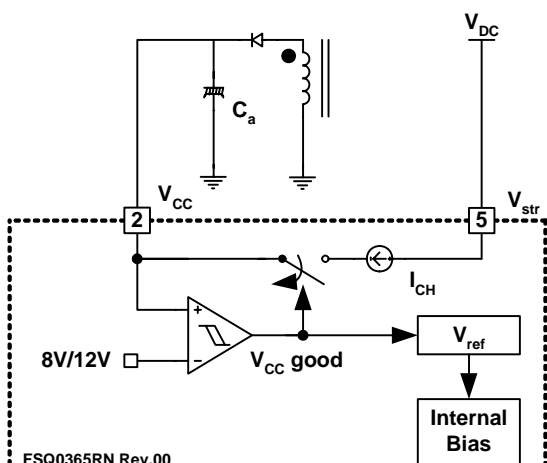

Figure 20. Start-up Circuit
**1. Startup:** At startup, an internal high-voltage current source supplies the internal bias and charges the external capacitor ( $C_a$ ) connected to the  $V_{CC}$  pin, as illustrated in Figure 20. When  $V_{CC}$  reaches 12V, the FPS begins switching and the internal high-voltage current source is disabled. The FPS continues its normal switching operation and the power is supplied from the auxiliary transformer winding unless  $V_{CC}$  goes below the stop voltage of 8V.